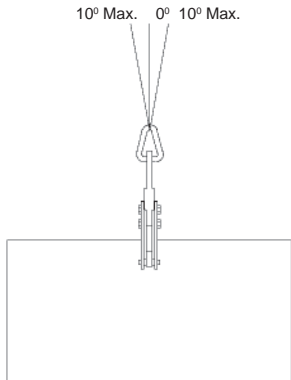

Figure 4: Never exceed ten degrees (10°) side loading with a “VL” series clamp unless using a Model “VL” or “AVL” with the Universal Shackle.
7. Never exceed ten degrees (10°) side loading with a “VL” series clamp unless using a Model “VL” or “AVL” with the Universal Shackle (Fig. 4).
- Never exceed ten degrees (10°) side loading with a “VL” series clamp unless using a Model “VL” or “AVL” with the Universal Shackle (Fig. 4).